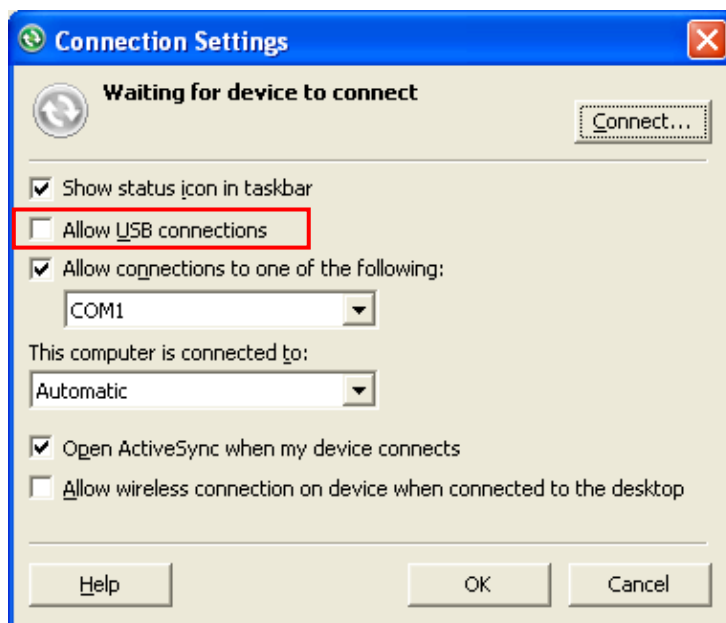

Figure 5.17
- Check "Allow USB connections" in ActiveSync. (See Figure 5.17)